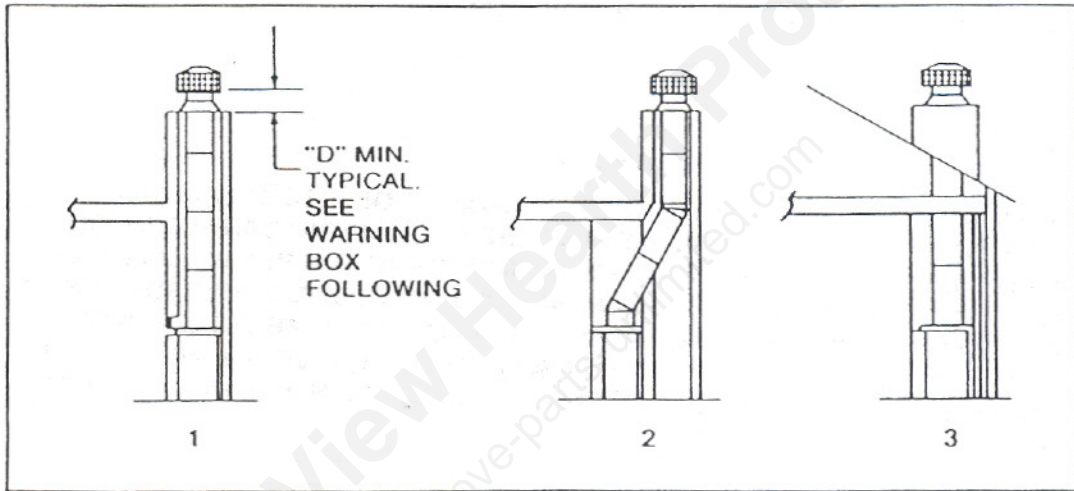

Figure 21
DIMENSION "D" SHOWN IN FIGURE 21, CHASE CONSTRUCTIONS, VARIES WITH CHIMNEY STYLE. FOR 300 SERIES OR 500 SERIES AIR COOLED CHIMNEY, DIMENSION "D" MUST BE SIX INCHES MINIMUM. FOR INSULSTACK®, DIMENSION "D" MUST BE THREE FEET MINIMUM.
Three examples of chase applications are shown in Figure 21.
2. Install the Chimney Sections up through the chase. When using a Round Terminal Cap (RT874, RT384 or RT584), the last section of Pipe must extend above the Chase Top to allow installation of the Storm Collar and Terminal Cap - see WARNING following Figure 21 for required distance. For installations utilizing a Telescoping Round Terminal Cap (RT582), the last Chimney Section must not be more than 15" below or 3" above the Chase Top. For installations utilizing a Telescoping Round Terminal Cap (RT382) or Telescoping Square Terminal Cap (ST376), the last Chimney Section must be below the top of the Chase Top, but not more than 18" below the Chase Top. If a Square Terminal Cap (ST875 or ST575) is utilized, see separate Installation Instructions.